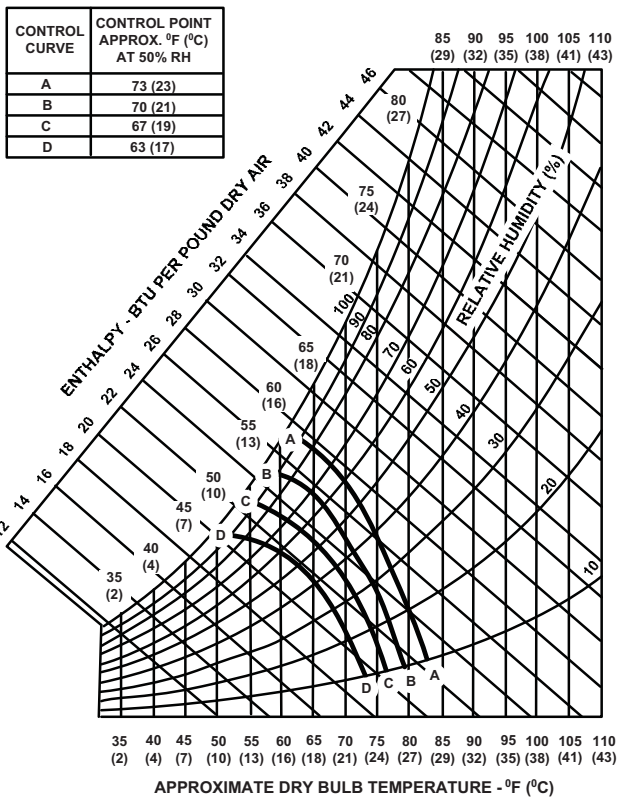

Figure 17: Enthalpy Set Point Chart
- The enthalpy set point may now be set by selecting the desired set point shown in the Enthalpy Set Point Adjustment Figure 17. Adjust as follows: